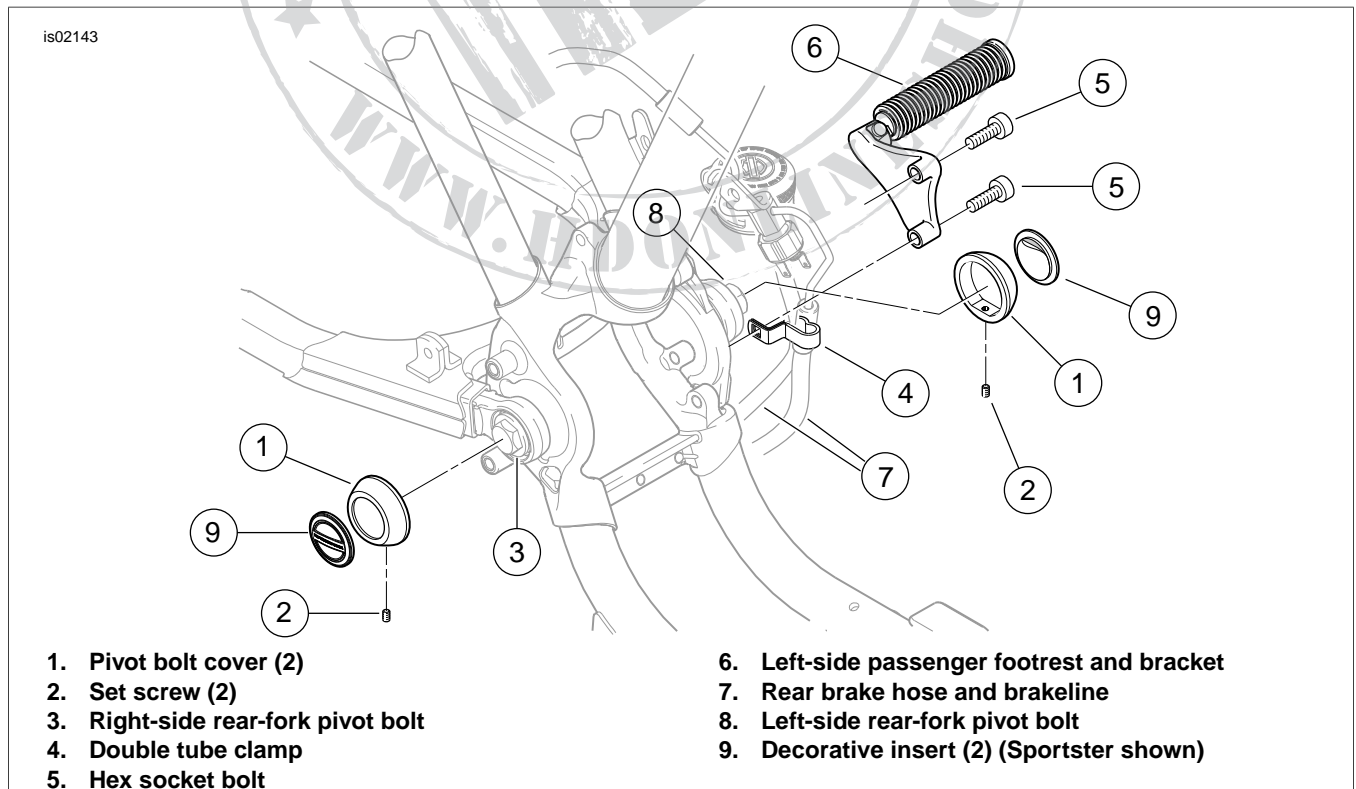

Figure 1. Pivot Bolt Cover Installation
1. See Figure 1. Start a set screw (2) from the kit into one of the pivot bolt covers (1) about two or three turns.
2. Note the position of the bottom-most flat on the rear-fork pivot hex-head bolt (3). Line up the pivot bolt cover over the bolt head so the set screw is centered on the hex flat. Use the 3/32 inch hex key from the kit to tighten the set screw securely to the head of the rear-fork pivot bolt.
3. Make sure the pivot bolt cover is clean and free of any oil or grease. Remove the protective backing from the adhesive disk on the back of the decorative insert (9). Install the decorative insert onto the end of the pivot bolt cover with the image or text upright and parallel to the ground. Press the insert firmly against the end of the pivot bolt cover and hold pressure for 30 seconds. After releasing pressure, avoid direct contact with the insert for about 20 minutes.